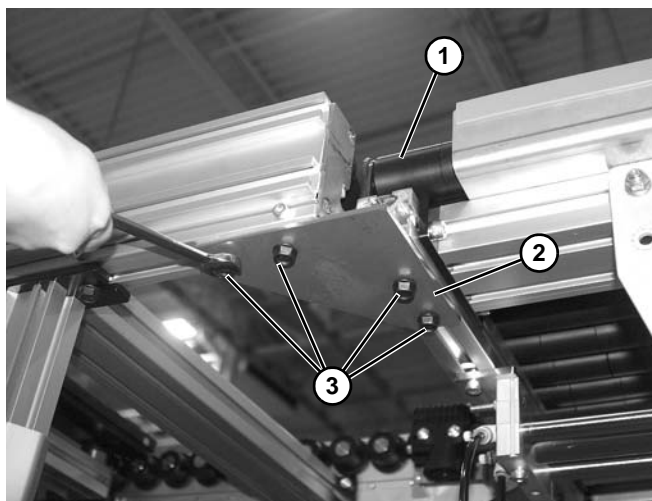

Figure 71
1. For installing conveyor to pallet pusher (**Figure 71, item 1**), install studs and/or spring nuts into conveyor channels. Install tie bracket (**Figure 71, item 2**) with four bolts (**Figure 71, item 3**).